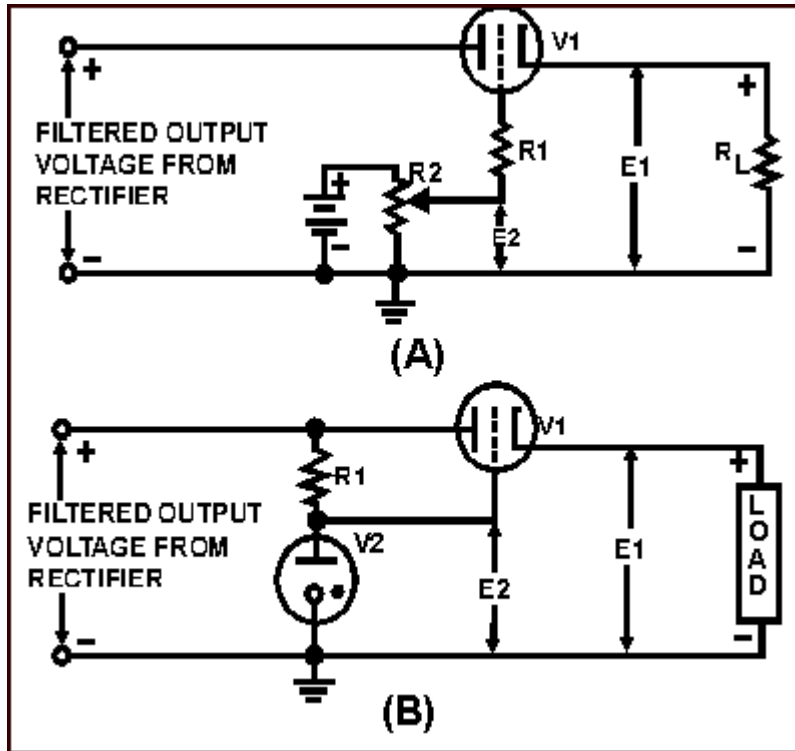

Figure 3-48.—Electron tube voltage regulator using a battery for the fixed bias
Refer to figure 3-48, view (A). The resistance of V1 is established initially by the bias on the tube. Assume that the voltage across the load is at the desired value. Then the cathode is positive with respect to ground by some voltage ( $E_1$ ). The grid can be made positive relative to ground by a voltage ( $E_2$ ) that is less than  $E_1$ . The potentiometer R2 is adjusted until the bias (grid-to-cathode voltage), which is  $E_2 - E_1$ , is sufficient to allow V1 to pass a current equal to the desired load current. With this bias, the resistance of V1 is established at the proper value to reduce the rectifier output voltage to the desired load voltage.